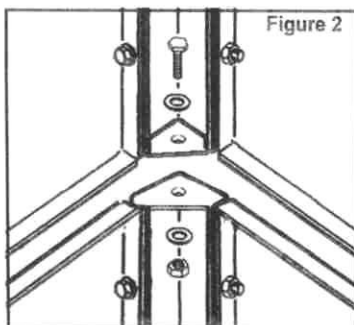

Figure 2
4. Secure all screws as shown in **Figure 2**.